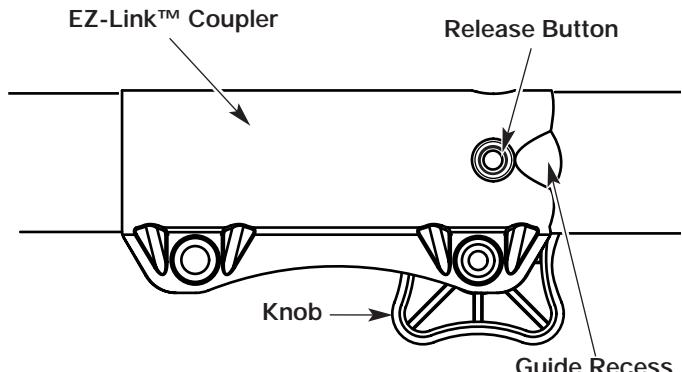

Fig. 6
1. Turn the knob counterclockwise to loosen (Fig. 6).
2. Press and hold the release button (Fig. 6).
3. While firmly holding the upper shaft housing, pull the cutting attachment or add-on straight out of the EZ-Link™ coupler (Fig. 6).
1. Turn knob counterclockwise to loosen (Fig. 6).
**NOTE:** Aligning the release button with the guide recess will help installation (Fig. 6).